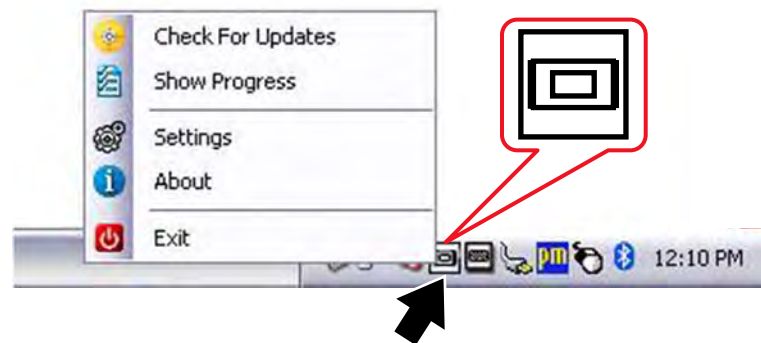

Figure 14-5 ShopStream Update Tool icon and menu
1. Select the SST icon in the system tray to open the menu (Figure 14-5).